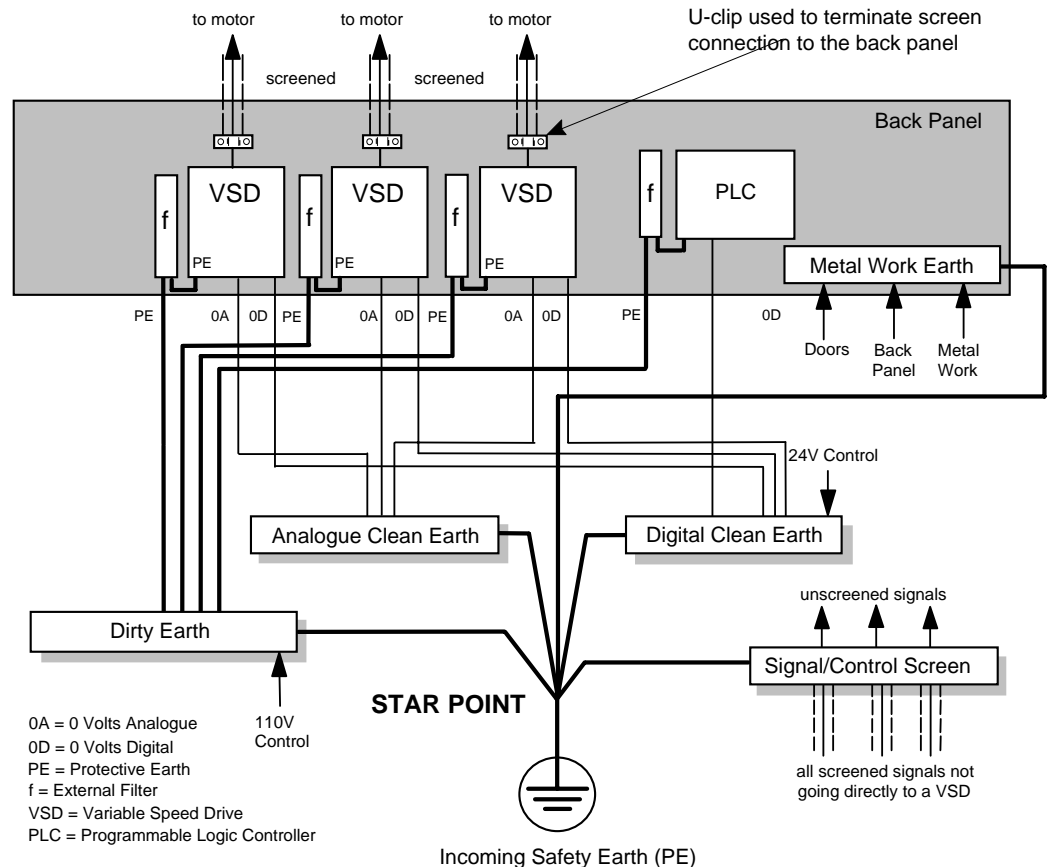

Figure 9-2 Star Point Earthing
- A single-star point earthing policy as shown in Figure 9-2 is required.
- The protective earth connection (PE) to the motor must be run inside the screened cable between the motor and VSD and be connected to the protective earth terminal in the gland box, or on the VSD.